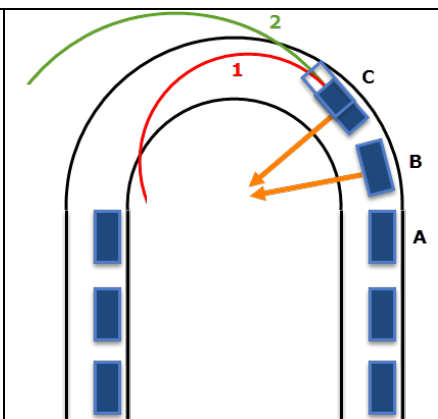

Figure 5
Turning in the direction of the skid sounds counter-intuitive. What exactly does it mean? And how can that work? For starters, let's consider why you're about to slip? Suppose you're traveling along a straight stretch (Point A in Figure 5) and the road starts to bend into a counter-clockwise circular turn. Everything is fine at Point B, but at Point C the road has become icy – maybe the road is shaded and the sun has not prevented ice from forming. You feel that the car is not responding the same as it was at point B. The wheels are pointed a bit to the left, parallel to center line, but the car is starting to move toward the side of the road. It's like you've lost your ability to steer. Yikes! What to do?
In Figure 5 the hollow box at point C represents your sliding car. Its wheels are still turned a bit to the left as they always would be to make the turn. But that's not working now since you're sliding already. Here are your other two choices.
**But...** You can't take advantage of this maneuver if it would endanger anyone on the side of the road or take you into worse danger such as a big drop off beside the road. But in the second case there would generally be a guard rail. How about the three car snapshots on the left side of the Figure 5? Would it work for the driver of that car? Think about it. For two-way traffic this maneuver would send the car on the inside lane into the outside lane! This would be very dangerous unless there is clearly no oncoming traffic. Note also that this car is already at a disadvantage due to the smaller-radius inside lane. **This driver should be going slower than the other driver. I'd bet that you couldn't find one person who knows that!**